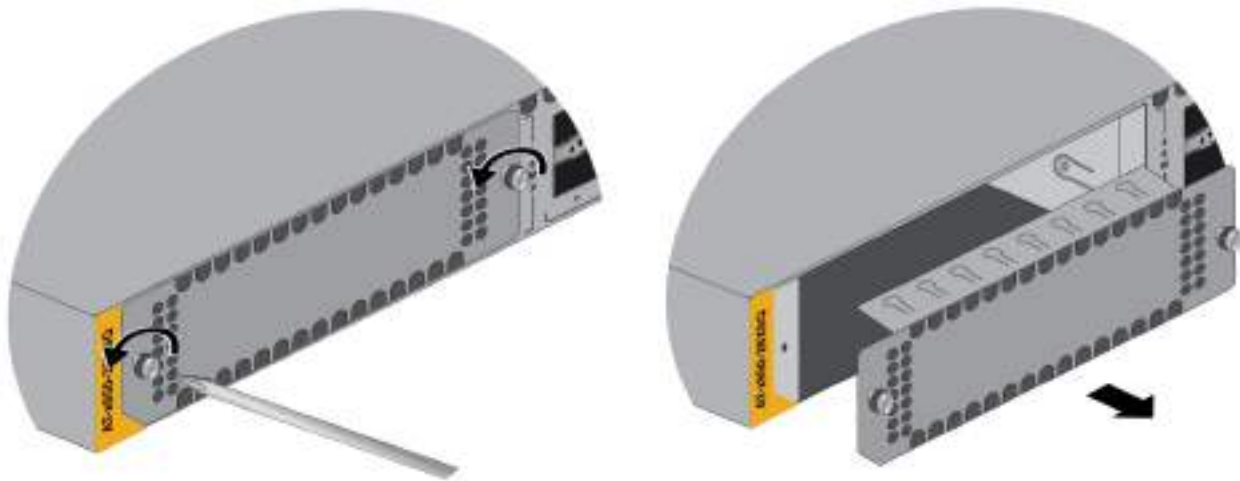

Figure 54. Removing the Blank Line Card Cover
9. Tighten the screw for the cover panel. Refer to Figure 54.
1. Using a #2 Phillips-head screwdriver, loosen the two captive screws on the blank expansion slot panel and remove it from the switch. Refer to Figure 54.